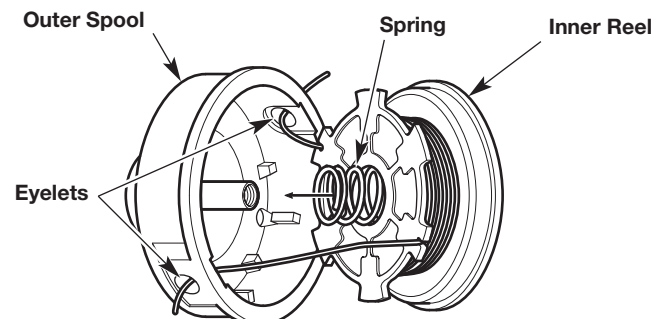

Fig. 33
1. Pass the two line ends through the eyelets in the outer spool (Fig. 33).
2. Place the spring inside the inner reel (Fig. 33).
3. Insert the inner reel into the outer spool (Fig. 33). Push the inner reel and outer spool together.